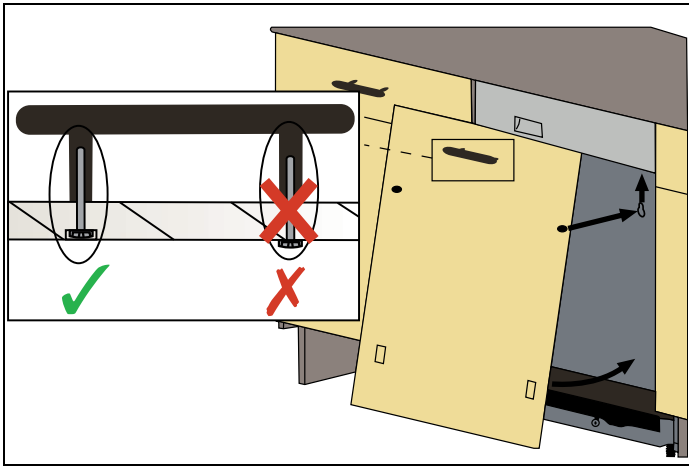

Fig. 26
5) Before mounting the wooden door on the dishwasher, mount the handle on the wooden door as in Fig. 26.